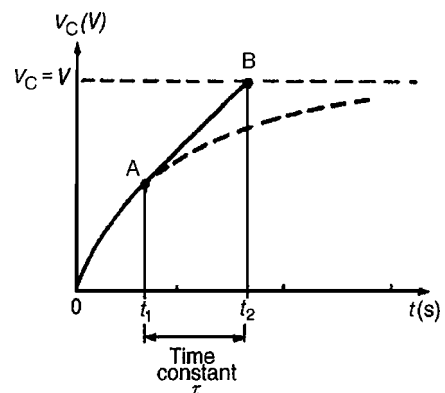

Figure 18.3
- (b) With reference to Fig. 18.3, let the constant voltage supply be replaced by a variable voltage supply at time t_1 seconds. Let the voltage be varied so that the **current** flowing in the circuit is **constant**.